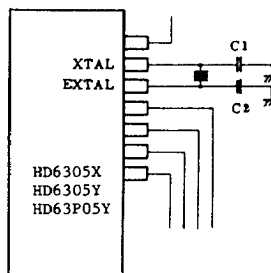

Figure 39 Design of Oscillation Circuit Board
- Board design of situating signal lines or power supply lines near the oscillator circuit as shown in Fig. 40, should not be used because of trouble in oscillation by induction. The resistor between the XTAL and EXTAL, and pins close to them should be 10M Ω or more. The circuit in Fig. 39 is an example of good board design.